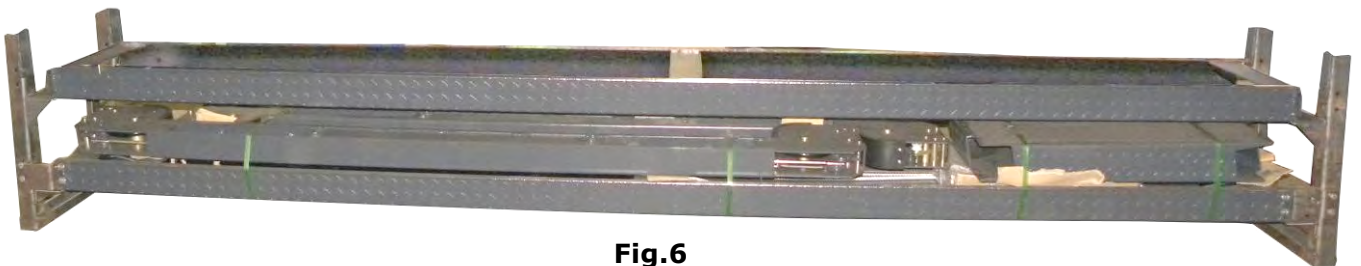

Fig.6
3. Take off the drive-in ramps and columns (See Fig.6).